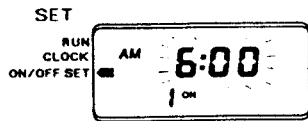

Fig. 4
- i) Press the set SELECT button so that the SET INDICATOR is pointing to the "ON/OFF SET" position on the front of the programmer. The display will show "1 ON" and the programmed time will flash (see figure 4).